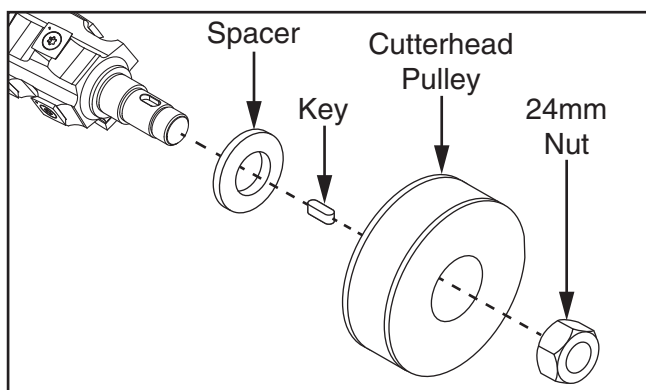

Figure 18. Cutterhead pulley assembly.
12. Install spacer, key, and cutterhead pulley onto cutterhead end (see **Figure 18**).